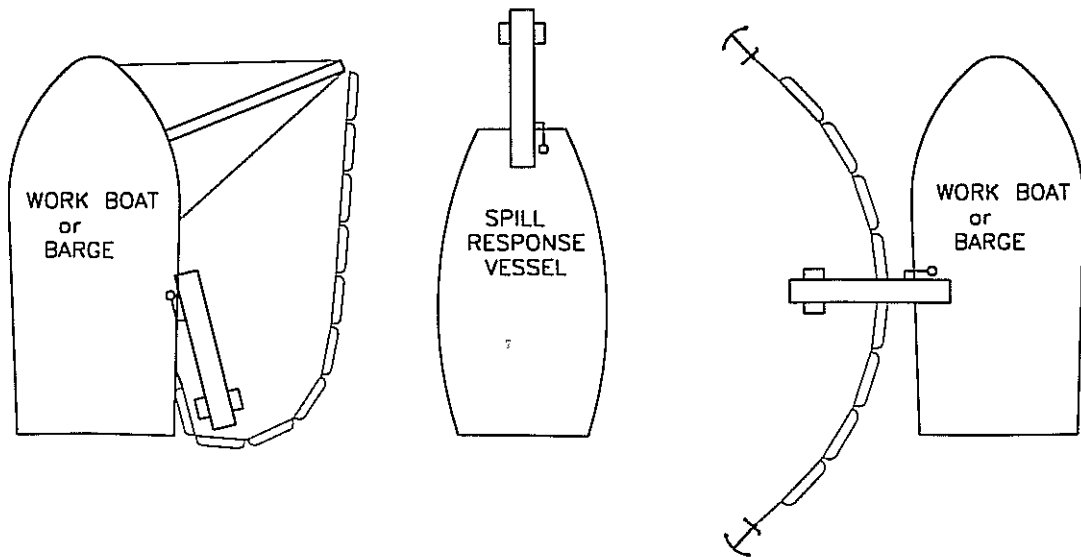

Figure 1
The following instructions are for the SIDEWINDER Series Skimmers equipped with the "short pin" davit. Figures 1 and 2 show typical mounting configurations. If other davit or pivot configurations are used, they will be described in an addendum to the manual.
1. Right and Left hand Configurations. The belt units can be fabricated as either right or left hand units. As you look from the drive end of the belt unit toward the float end, a right hand unit is on the right hand side of the davit and has the speed controls on the left side of the belt unit. A left hand unit mounts on the left side of the davit, and has the speed controls on the right side of the belt unit. All the units shown in Figure 1 are left hand units.
3. **Collection:** Refer to DEPLOYMENT MODES in figure 1. The MARCO SIDEWINDER oil recovery system is often used as a stationary skimmer. When spilled oil is contained, the nose of the SIDEWINDER can be placed in the pool of oil. The induction pump then draws oil from the surrounding surface area so that the Filterbelt can recover it.